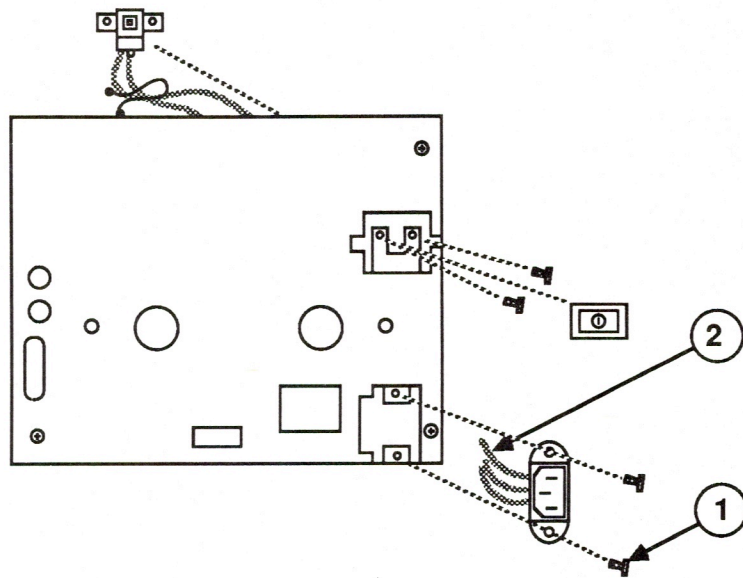

FIGURE 19
(Figure 19, #1).
3. Desolder the three wires from the inlet (Figure 19, #2). Note where the wires go on the inlet so that you can remember where to resolder them later. Save the capacitors to reuse.
1. Make the wires to the inlet (Figure 19, #2) and the capacitors mechanically secure by twisting the wires together, then solder them.
3. Line up the screw holes on the inlet with the bracket, and replace the two screws (Figure 19, #1).